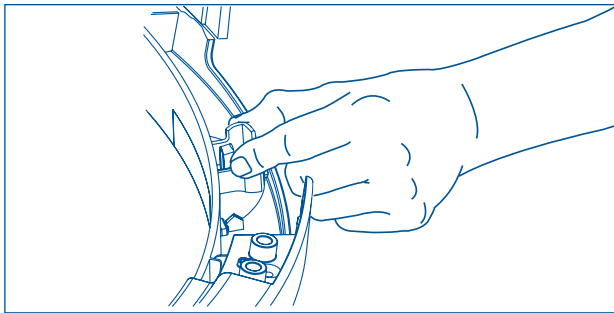

Figure 2-37.
1. Grasp the hole plug between finger and thumb and rock it upward, pivoting it away from the center of the glass, releasing the tab. (See Figure 2-37)